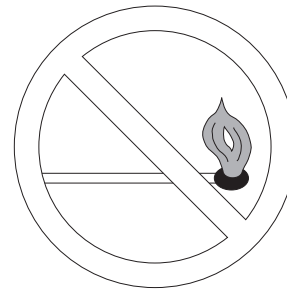

Fig. 5 - Do Not Light Burner with Match
- Never attempt to manually light the burners with a match or other source of flame. See Fig. 5.